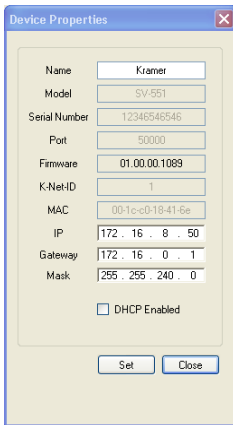
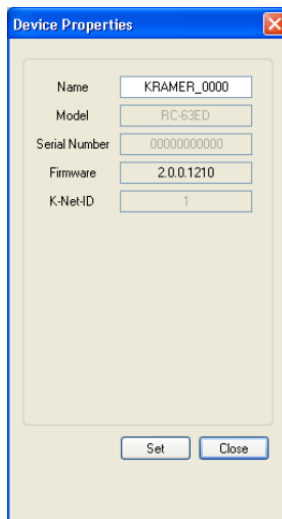

Figure 49: Device Properties Window
Figure 57: The Device Properties Window in the Standalone Mode
To connect a device, open the Device menu and click Properties. The Device Properties window Appears (see Figure 49). Figure 57 shows the Device Properties window in the standalone setup.
8. Upon completion, open the Device Properties window (see Figure 49) to make sure the firmware was upgraded2.
Figure 57 shows the Device Properties window in the standalone mode: